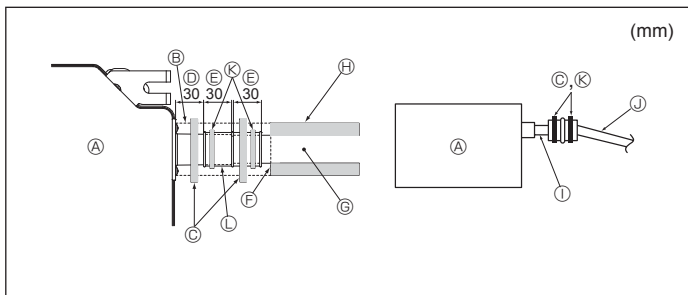

Fig. 3-5
1. Connect the drain socket (supplied with the unit) to the drain port. (Fig. 3-5) (Affix the tube using PVC adhesive then secure it with a band.)